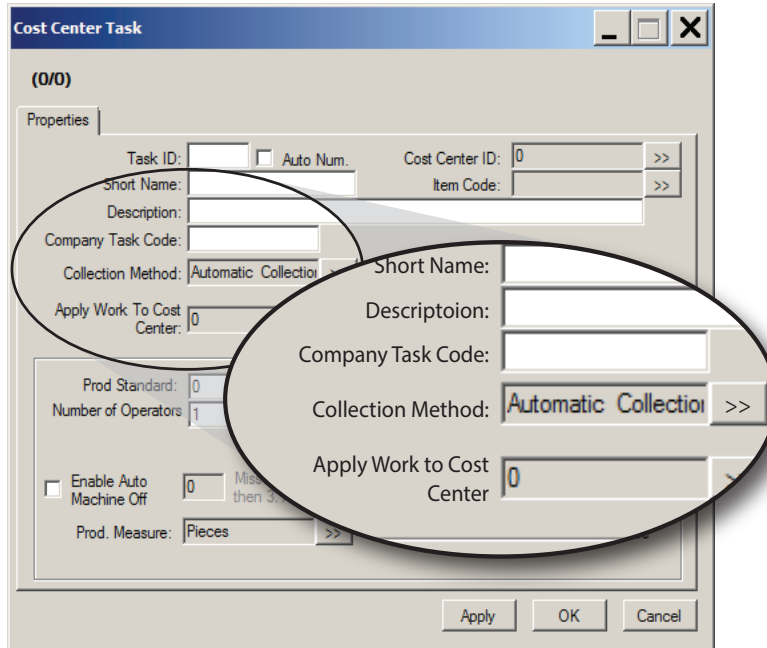

Figure 23. Setup: Cost Center Task dialog Collection Method setup.
3. Click the button  to the right of the **Collection Method** field (see Figure 23).